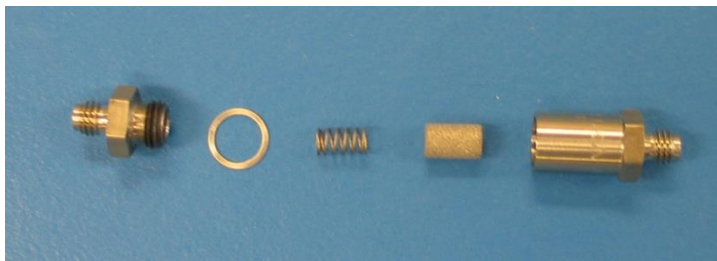

Figure 39: Proper Filter Stacking Order
5. Reassemble the filter. Put the new filter element into the filter (hollow-end first) and put the spring on top of the element. Place the washer inside the cap. For correct stacking order, see Figure 39: Proper Filter Stacking Order.